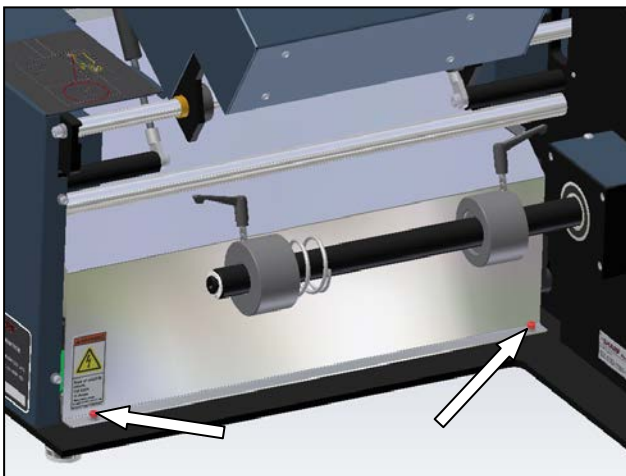

Figure 3-298. Motor Cover Rear Screws
1. Remove the outside frame guard and motor cover (Figure 3-298 and 3-299).